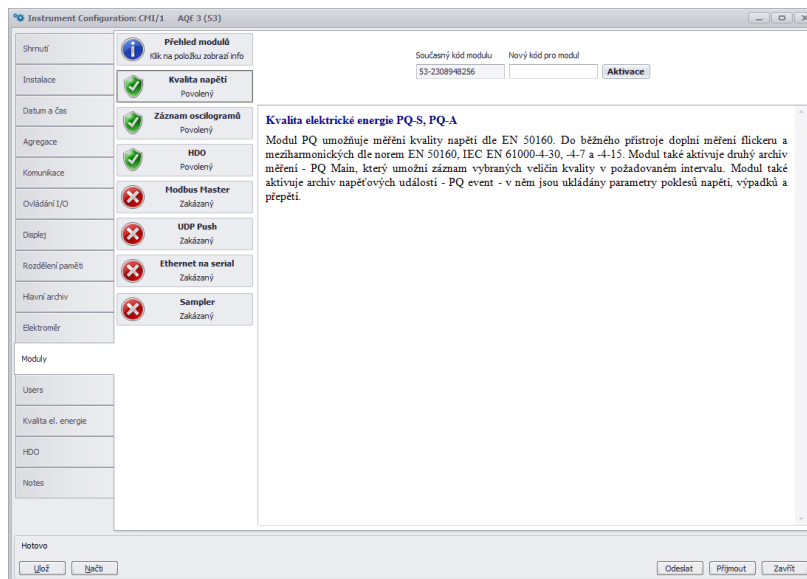

Figure 21: ENVIS.Daq — Activation of special firmware modules.
**Modules (fig. 21)** This special device settings tab is only used to activate and deactivate optional firmware modules by entering the correct activation code in the text field and sending it to the device. The activation status of each supported module is signaled.